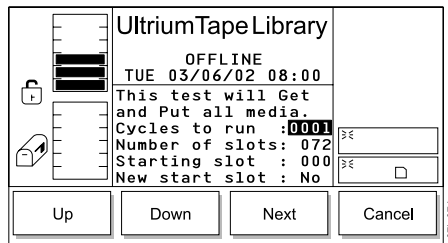

Figure 273. Get/Put Dialog
6. Press the button below the **Get/Put** softkey. The Get/Put Dialog displays (see Figure 273).